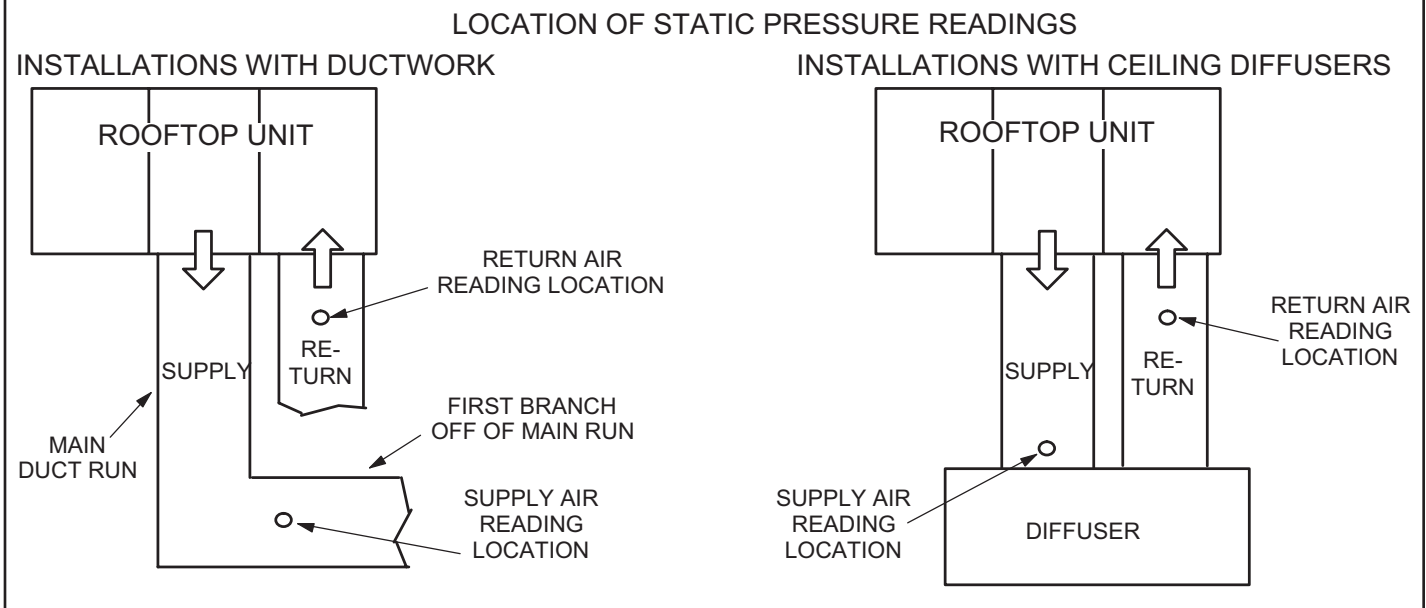

**FIGURE 29**
The blower assembly is secured to a sliding frame which allows the blower motor assembly to be pulled out of the unit. See FIGURE 28, FIGURE 29, or FIGURE 30.
- 2 - Remove screws on either side of blower assembly sliding base. See FIGURE 29 or FIGURE 30.
- 4 - The blower RPM can be adjusted at the motor pulley. Loosen Allen screw and turn adjustable pulley clockwise to increase CFM. Turn counterclockwise to decrease CFM. See FIGURE 28, FIGURE 29, or FIGURE 30. Do not exceed minimum and maximum number of pulley turns as shown in TABLE 4.
Maximum life and wear can be obtained from belts only if proper pulley alignment and belt tension are maintained. Tension new belt after a 24-48 hour period of operation. This will allow belt to stretch and seat to grooves. Make sure blower and motor pulley are aligned as shown in FIGURE 32. See FIGURE 28, FIGURE 29 or FIGURE 30 to adjust belt tension.